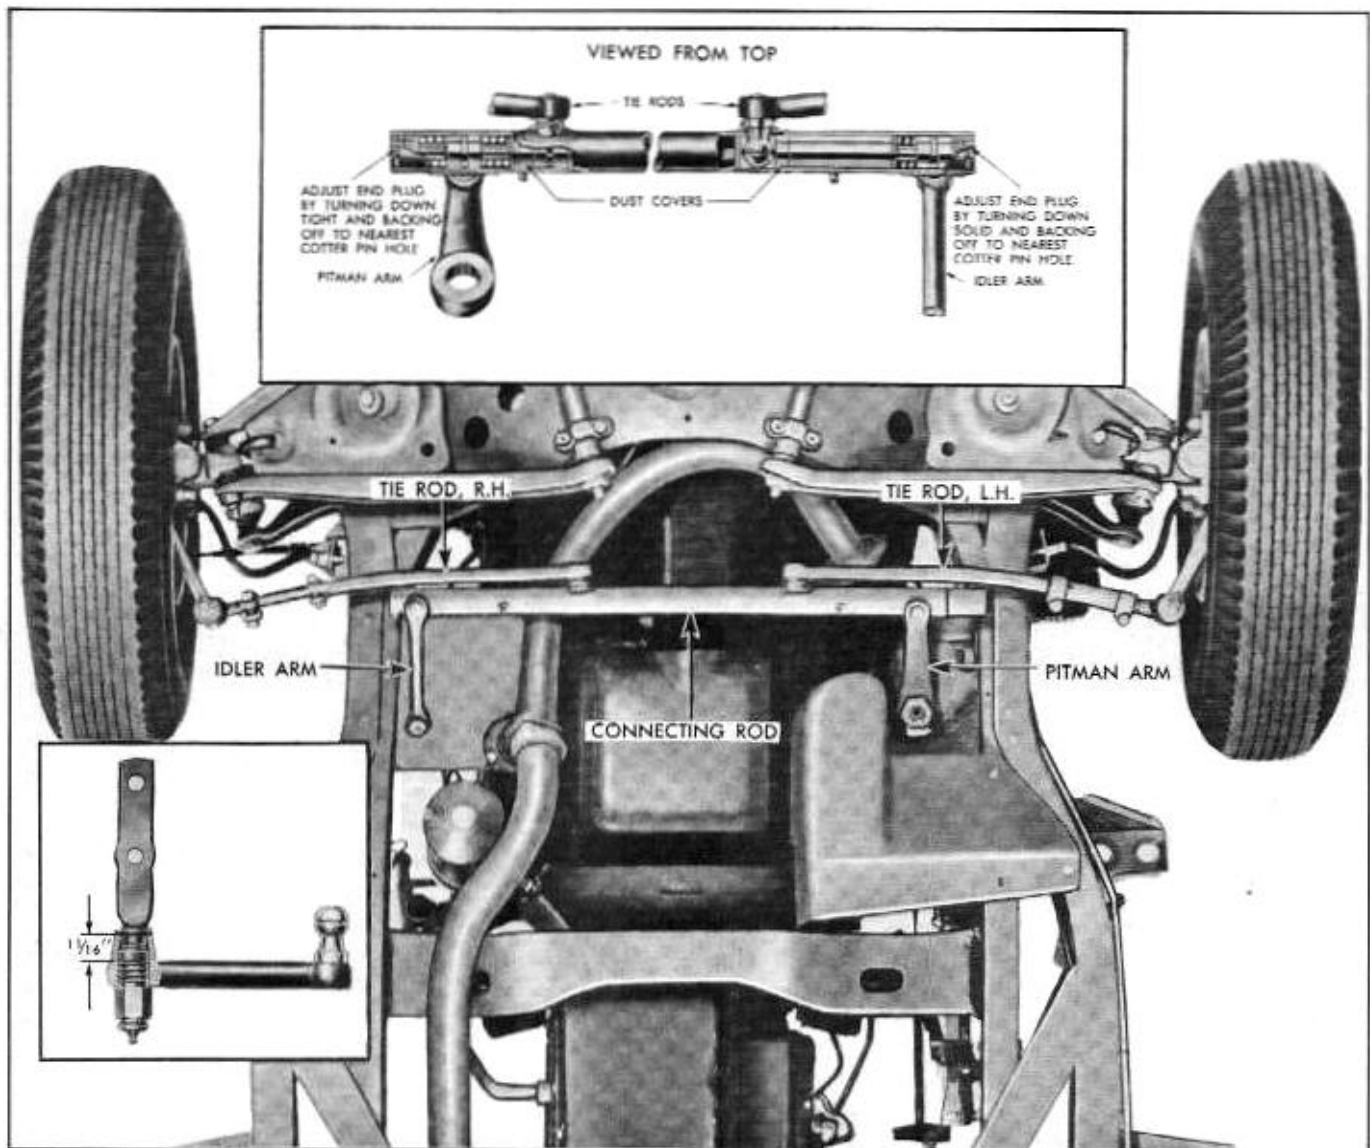

Fig. 9-8 Steering Linkage
1. Disconnect steering connecting rod from pitman arm (Fig. 9-8) by removing cotter pin and plug from connecting rod.
### STEERING LINKAGE—REPLACE (FIG. 9-8)